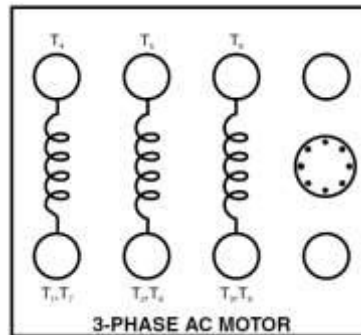

Figure 1: External connector overlay for the three phase motor
Secure a Machines Training unit, and mount a three-phase motor (See figure 1) to the left side of the training unit. Ask the instructor for help if the machine is too heavy to put into place. If there is a coupling on the motor shaft or not, secure a coupling guard over the unit.
3. Obtain the correct plastic overlay for the external machine connections (left front side) and place it over the banana jacks (See figure 1).